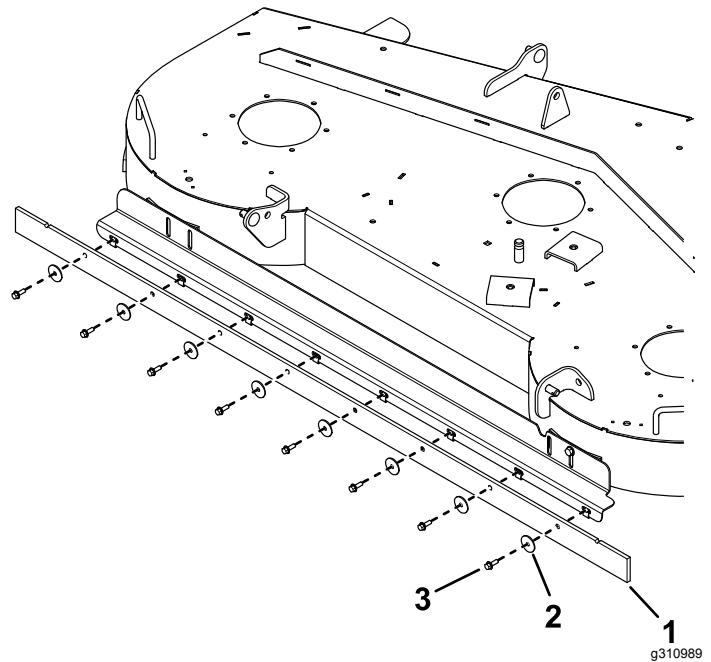

Figure 6
7. Install the wiper to the bracket using 8 bolts and 8 washers (Figure 6).